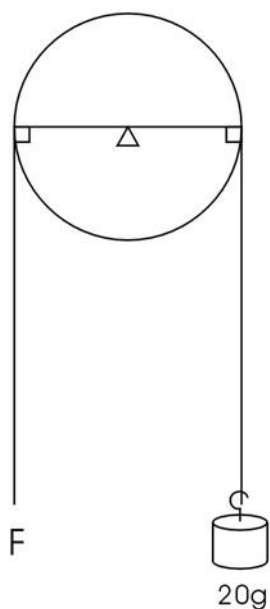
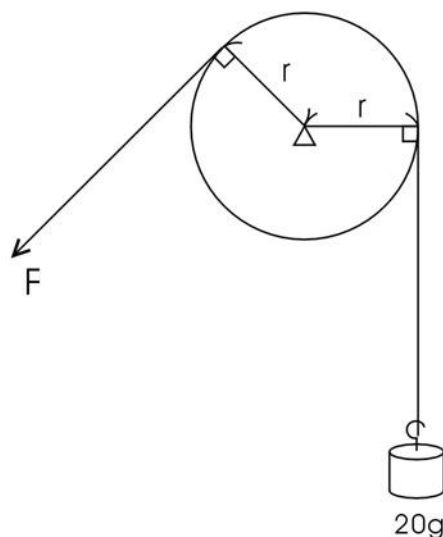

Figure 1
Figure 2
2. Fixed pulley: As shown in **Figure 1**, the effort and the resistance are at the opposite sides of the fulcrum. Despite the angle of effort, the effort arm is perpendicular to the effort and the resistance arm is perpendicular to the resistance, as shown in **Figure 2**. Thus, regardless the angles of effort and resistance, the arms of effort and resistance remain equal. We can conclude that a fixed pulley does not save labor but it can change the direction of applied force.